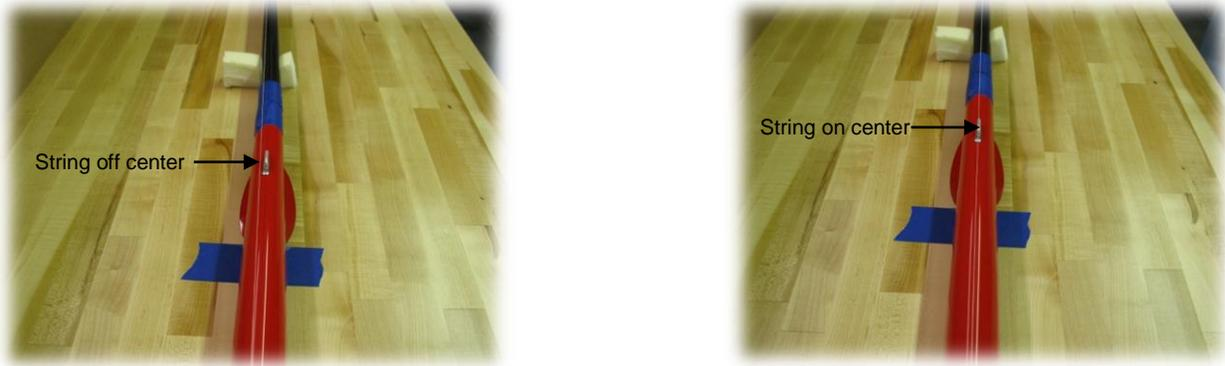

Figure 6: Shows misalignment on the left and alignment on the right
- Adjust the boom side to side as required to ensure perfect alignment between the fuselage and boom as shown in figure 6.